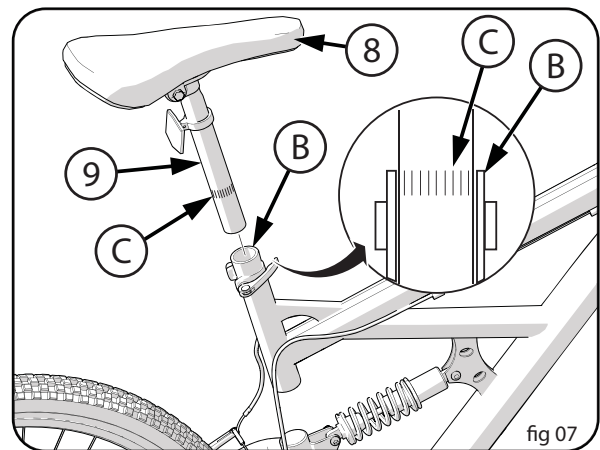

fig 07
- Point the Seat (8) forward and put the Seat Post (9) into the Seat Tube (B) (figs 07, 08).